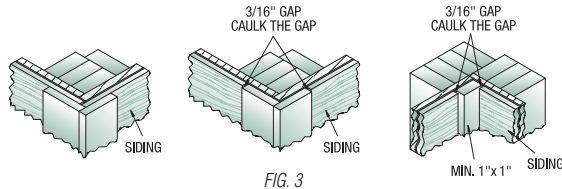

FIG. 3
- Gap the siding at all corners 3/16" and caulk. See Fig 3.
- When butting siding to inside or outside corners, use a minimum 4/4" thick (nominal) dry wood material. TruWood Trim is recommended. *See Fig 3.*